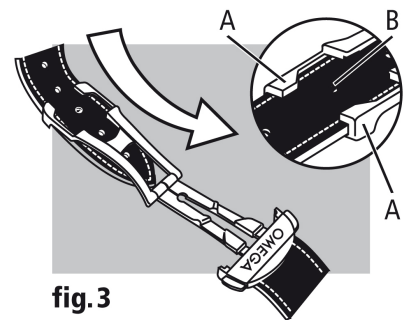

fig. 3
**Adjusting the length (fig. 3):** free the longer section from the two slideways (A) and from the catch (B). Adjust the bracelet in the required direction and reinsert in the catch and the two slideways. Try the watch for size and readjust if necessary.